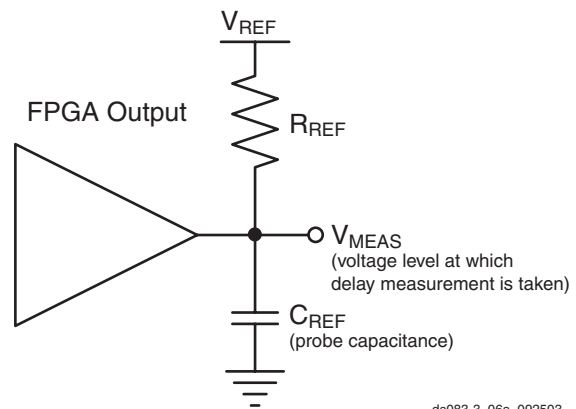

Figure 6: Generalized Test Setup
4. Note that this is an input voltage reference that bears no relation to the  $V_{REF} / V_{MEAS}$  parameters found in IBIS models and/or noted in Figure 6.
Output delays are measured using a Tektronix P6245 TDS500/600 probe (< 1 pf) across approximately 4" of FR4 microstrip trace. Standard termination was used for all testing. (See Virtex-II Pro Platform FPGA User Guide for details.) The propagation delay of the 4" trace is characterized separately and subtracted from the final measurement, and is therefore not included in the generalized test setup shown in Figure 6.